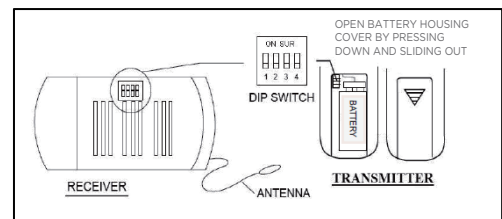

Fig. 8
- To pair a remote with a receiver, set the same code on both the remote and the receiver using the dip switches (Fig. 8). If more than one fan is installed, each fan and remote will require a unique code so that each remote will control only one fan.